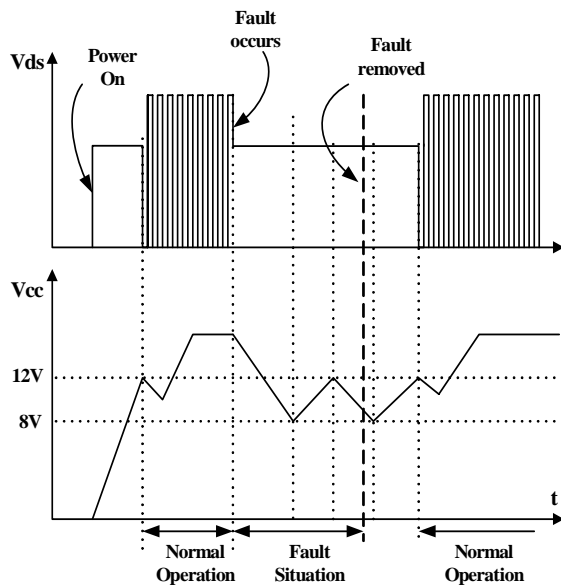

Figure 19. Auto Restart Operation
3. Protection Circuit: The FSCM0565R has several self protective functions such as over load protection (OLP), over voltage protection (OVP) and thermal shutdown (TSD). Because these protection circuits are fully integrated into the IC without external components, the reliability can be improved without increasing cost. Once the fault condition occurs, switching is terminated and the SenseFET remains off. This causes V_{CC} to fall. When V_{CC} reaches the UVLO stop voltage of 8V, the current consumed by the FSCM0565R decreases to the startup current (typically 25uA) and the current supplied from the DC link charges the external capacitor (C_a) that is connected to the V_{CC} pin. When V_{CC} reaches the start voltage of 12V, the FSCM0565R resumes its normal operation. In this manner, the auto-restart can alternately enable and disable the switching of the power SenseFET until the fault condition is eliminated (see Figure 19).